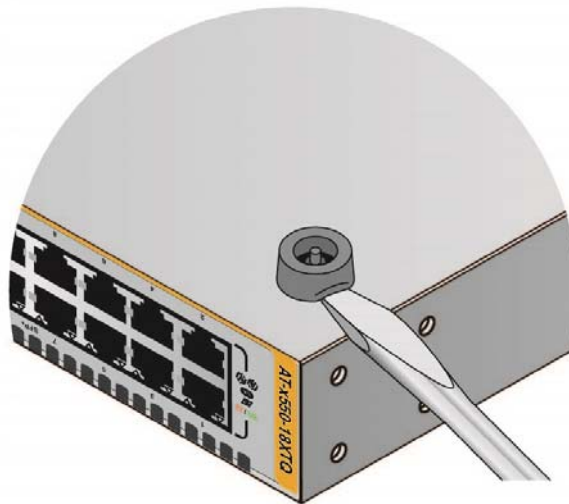

Figure 31. Removing the Plastic Feet from the Bottom Panel of the Switch
5. Use a small flat-head screwdriver to pry the four plastic feet from the bottom of the switch. Refer to Figure 31.